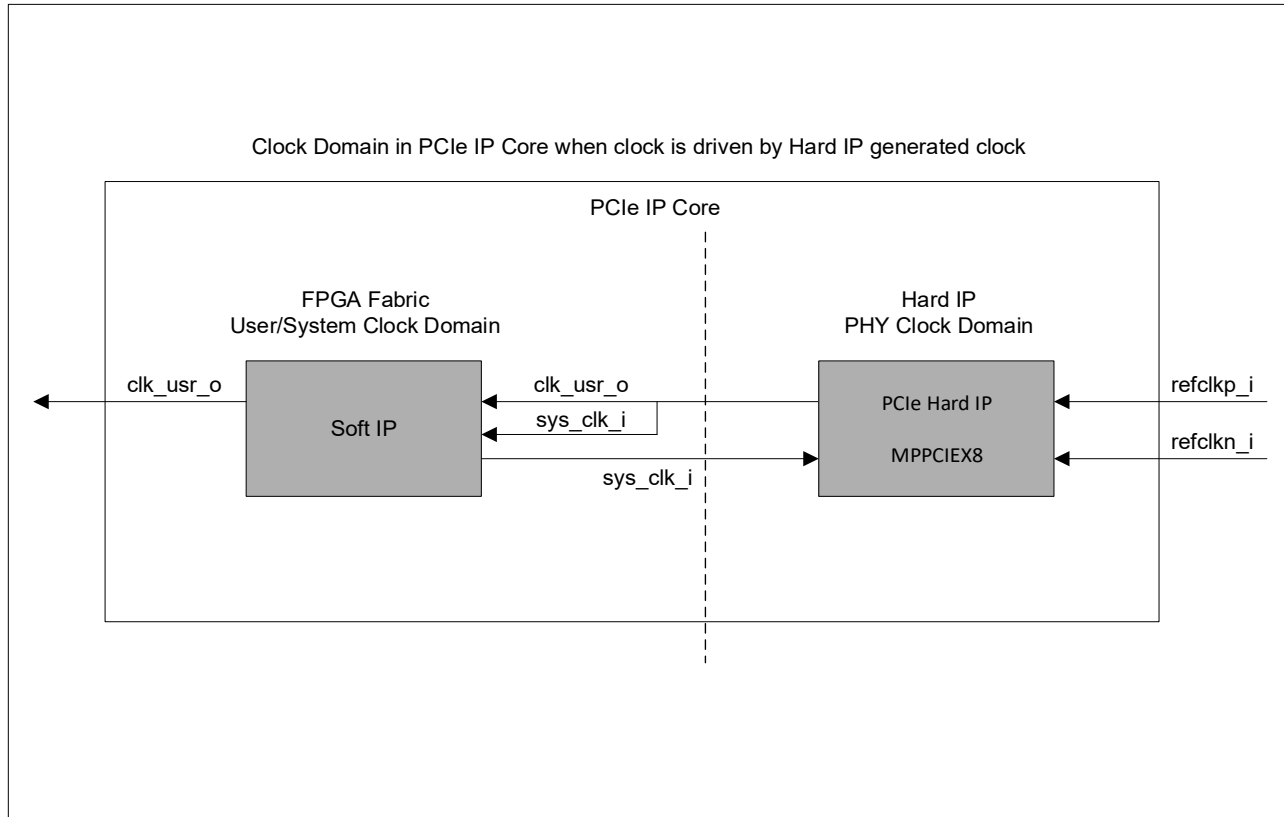

Figure 2.5. PCIe IP Clock Domain Block Diagram for TLP Interface
The PCIe x8 IP includes the following clock domains. The `sys_clk_i` signal is generated during the PLL IP instantiation. For the TLP interface, you can connect `clk_usr_o` back to the `sys_clk_i`, as shown in Figure 2.5.
- For the TLP interface variants, you can choose to connect `clk_usr_o` back to the `sys_clk_i` as shown in Figure 2.5.